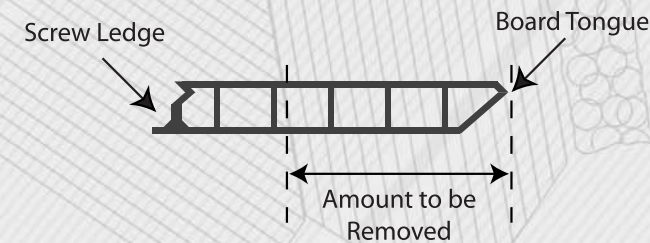

Figure 3a: Starter Board
2. Subtract 6-1/8" from this measurement. Continue to subtract an additional 6" from the total until the result is less than 6". The result is the width you must remove from the tongue side of the starter board, (including the width of the tongue). See Figure 3a.